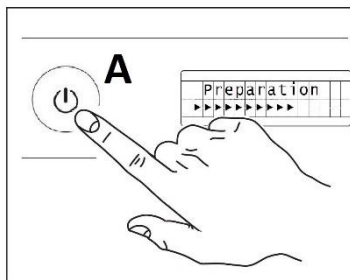

Fig.10
- 4- Close the door and press button “A” to turn ON the machine. (Fig.10)